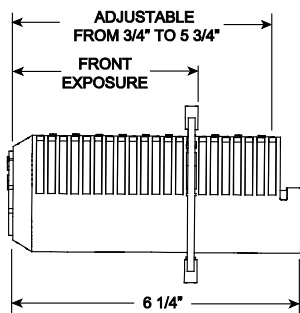

Fig 3
5. Slide Mounting Sleeve through the hole. Use the number scale on top of the Mounting Sleeve to determine exposure distance. Fig 3